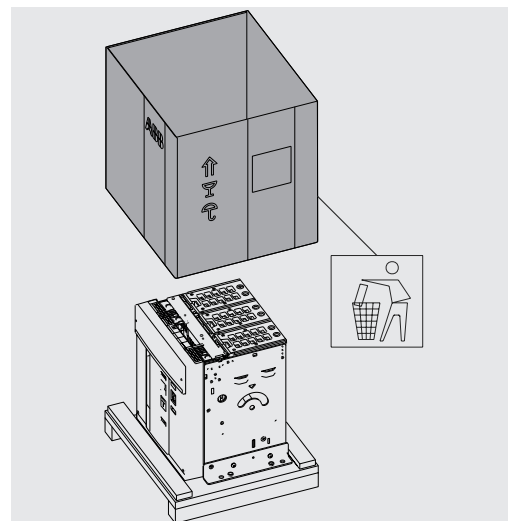

Figure 9
3. Remove the packing box by lifting it upwards. See Figure 9.